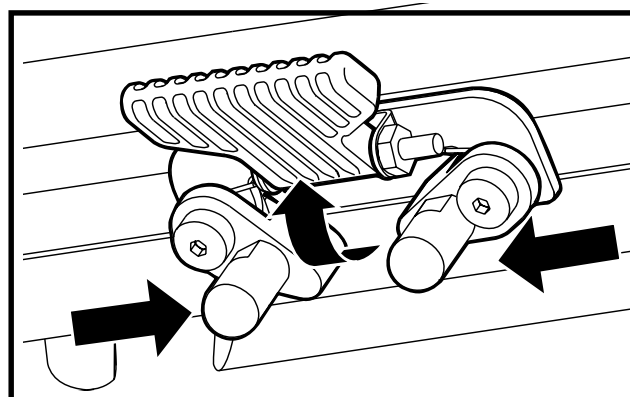

Figure 12. Seat Latch Safety (Disengaged)
3. Flip up the seat latch safety. See figure 12.